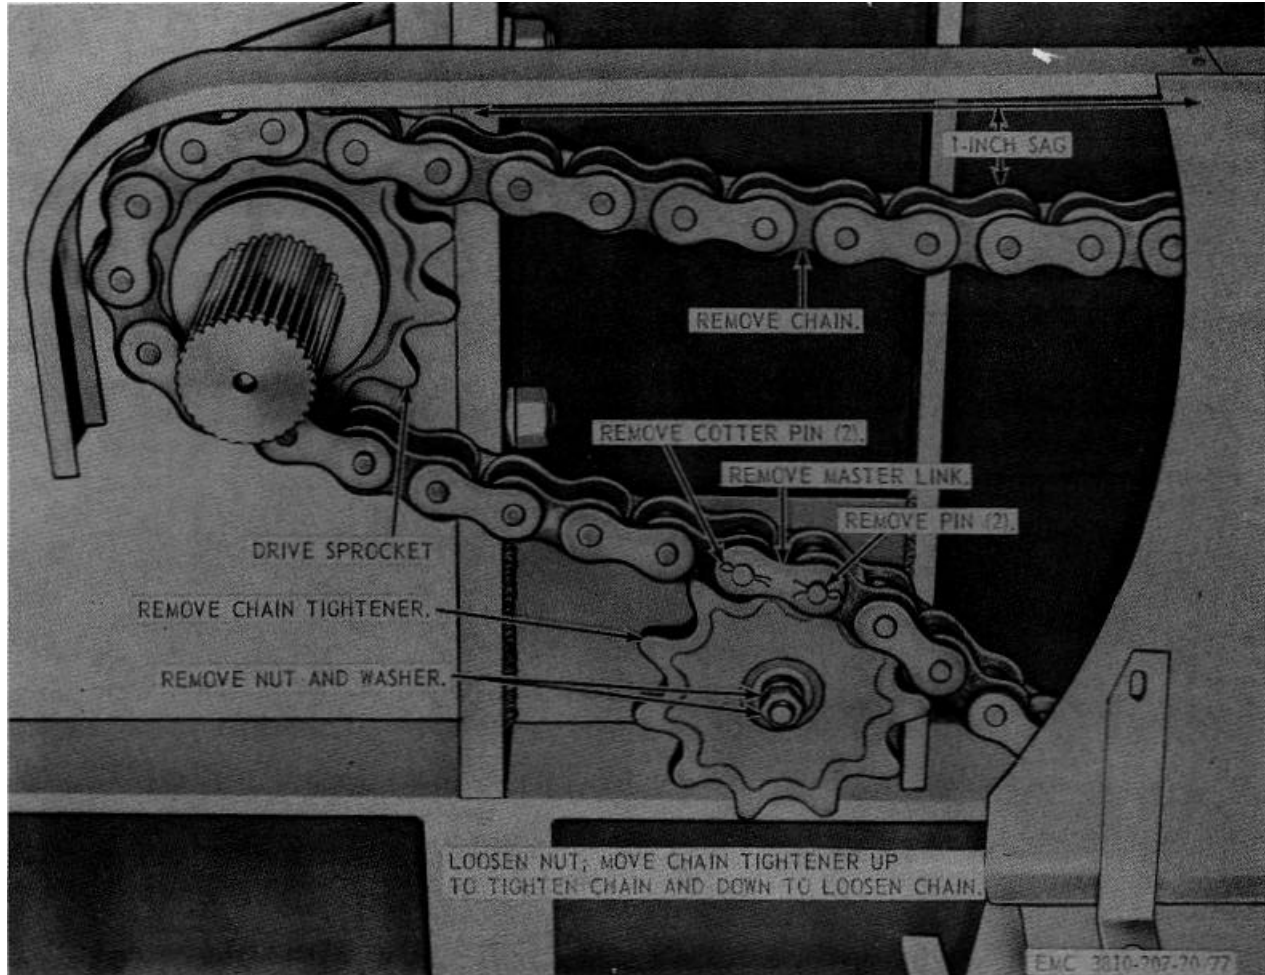

Figure 77. Swing shaft drive chain and tightener, removal and installation .
(2) Remove the swing shaft drive chain and tightener as instructed on figure 77.
- (1) Install the drive chain and chain tightener as illustrated on figure 77.
- (2) Adjust the drive chain as instructed on figure 77.
- (3) Install the swing gear guard (par. 149).